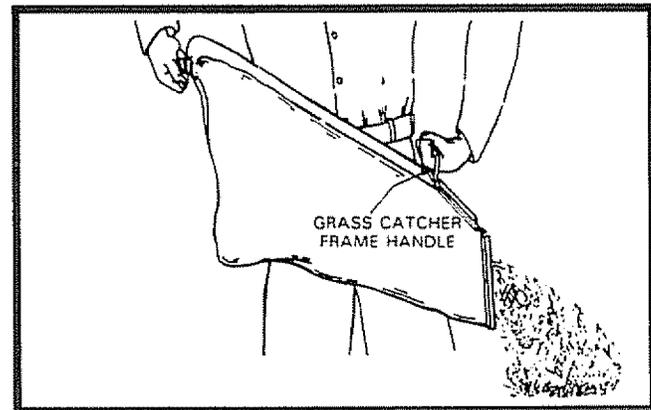

FIG. 10
- Empty by shaking Catcher with open end downward (See Fig. 10).